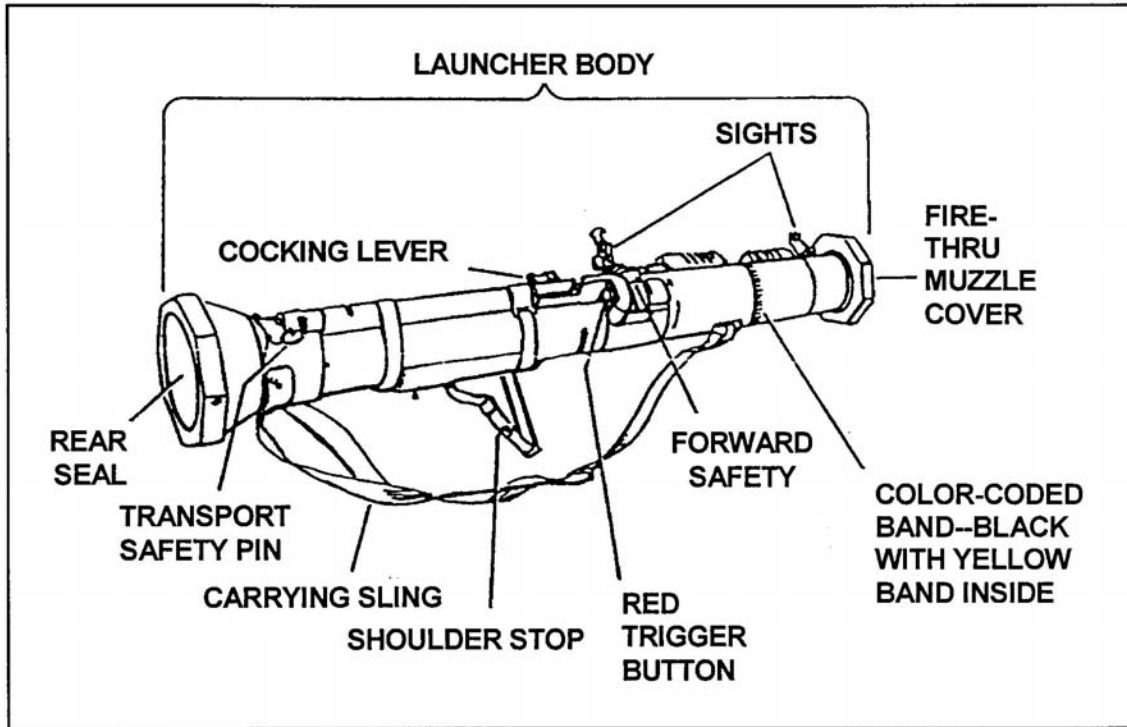

Figure 1. Parts of the M136 launcher to be inspected.
1. Perform the prefire checks. The overall condition of the launcher should be inspected before it is used (Figure 1). The firer should ensure that-